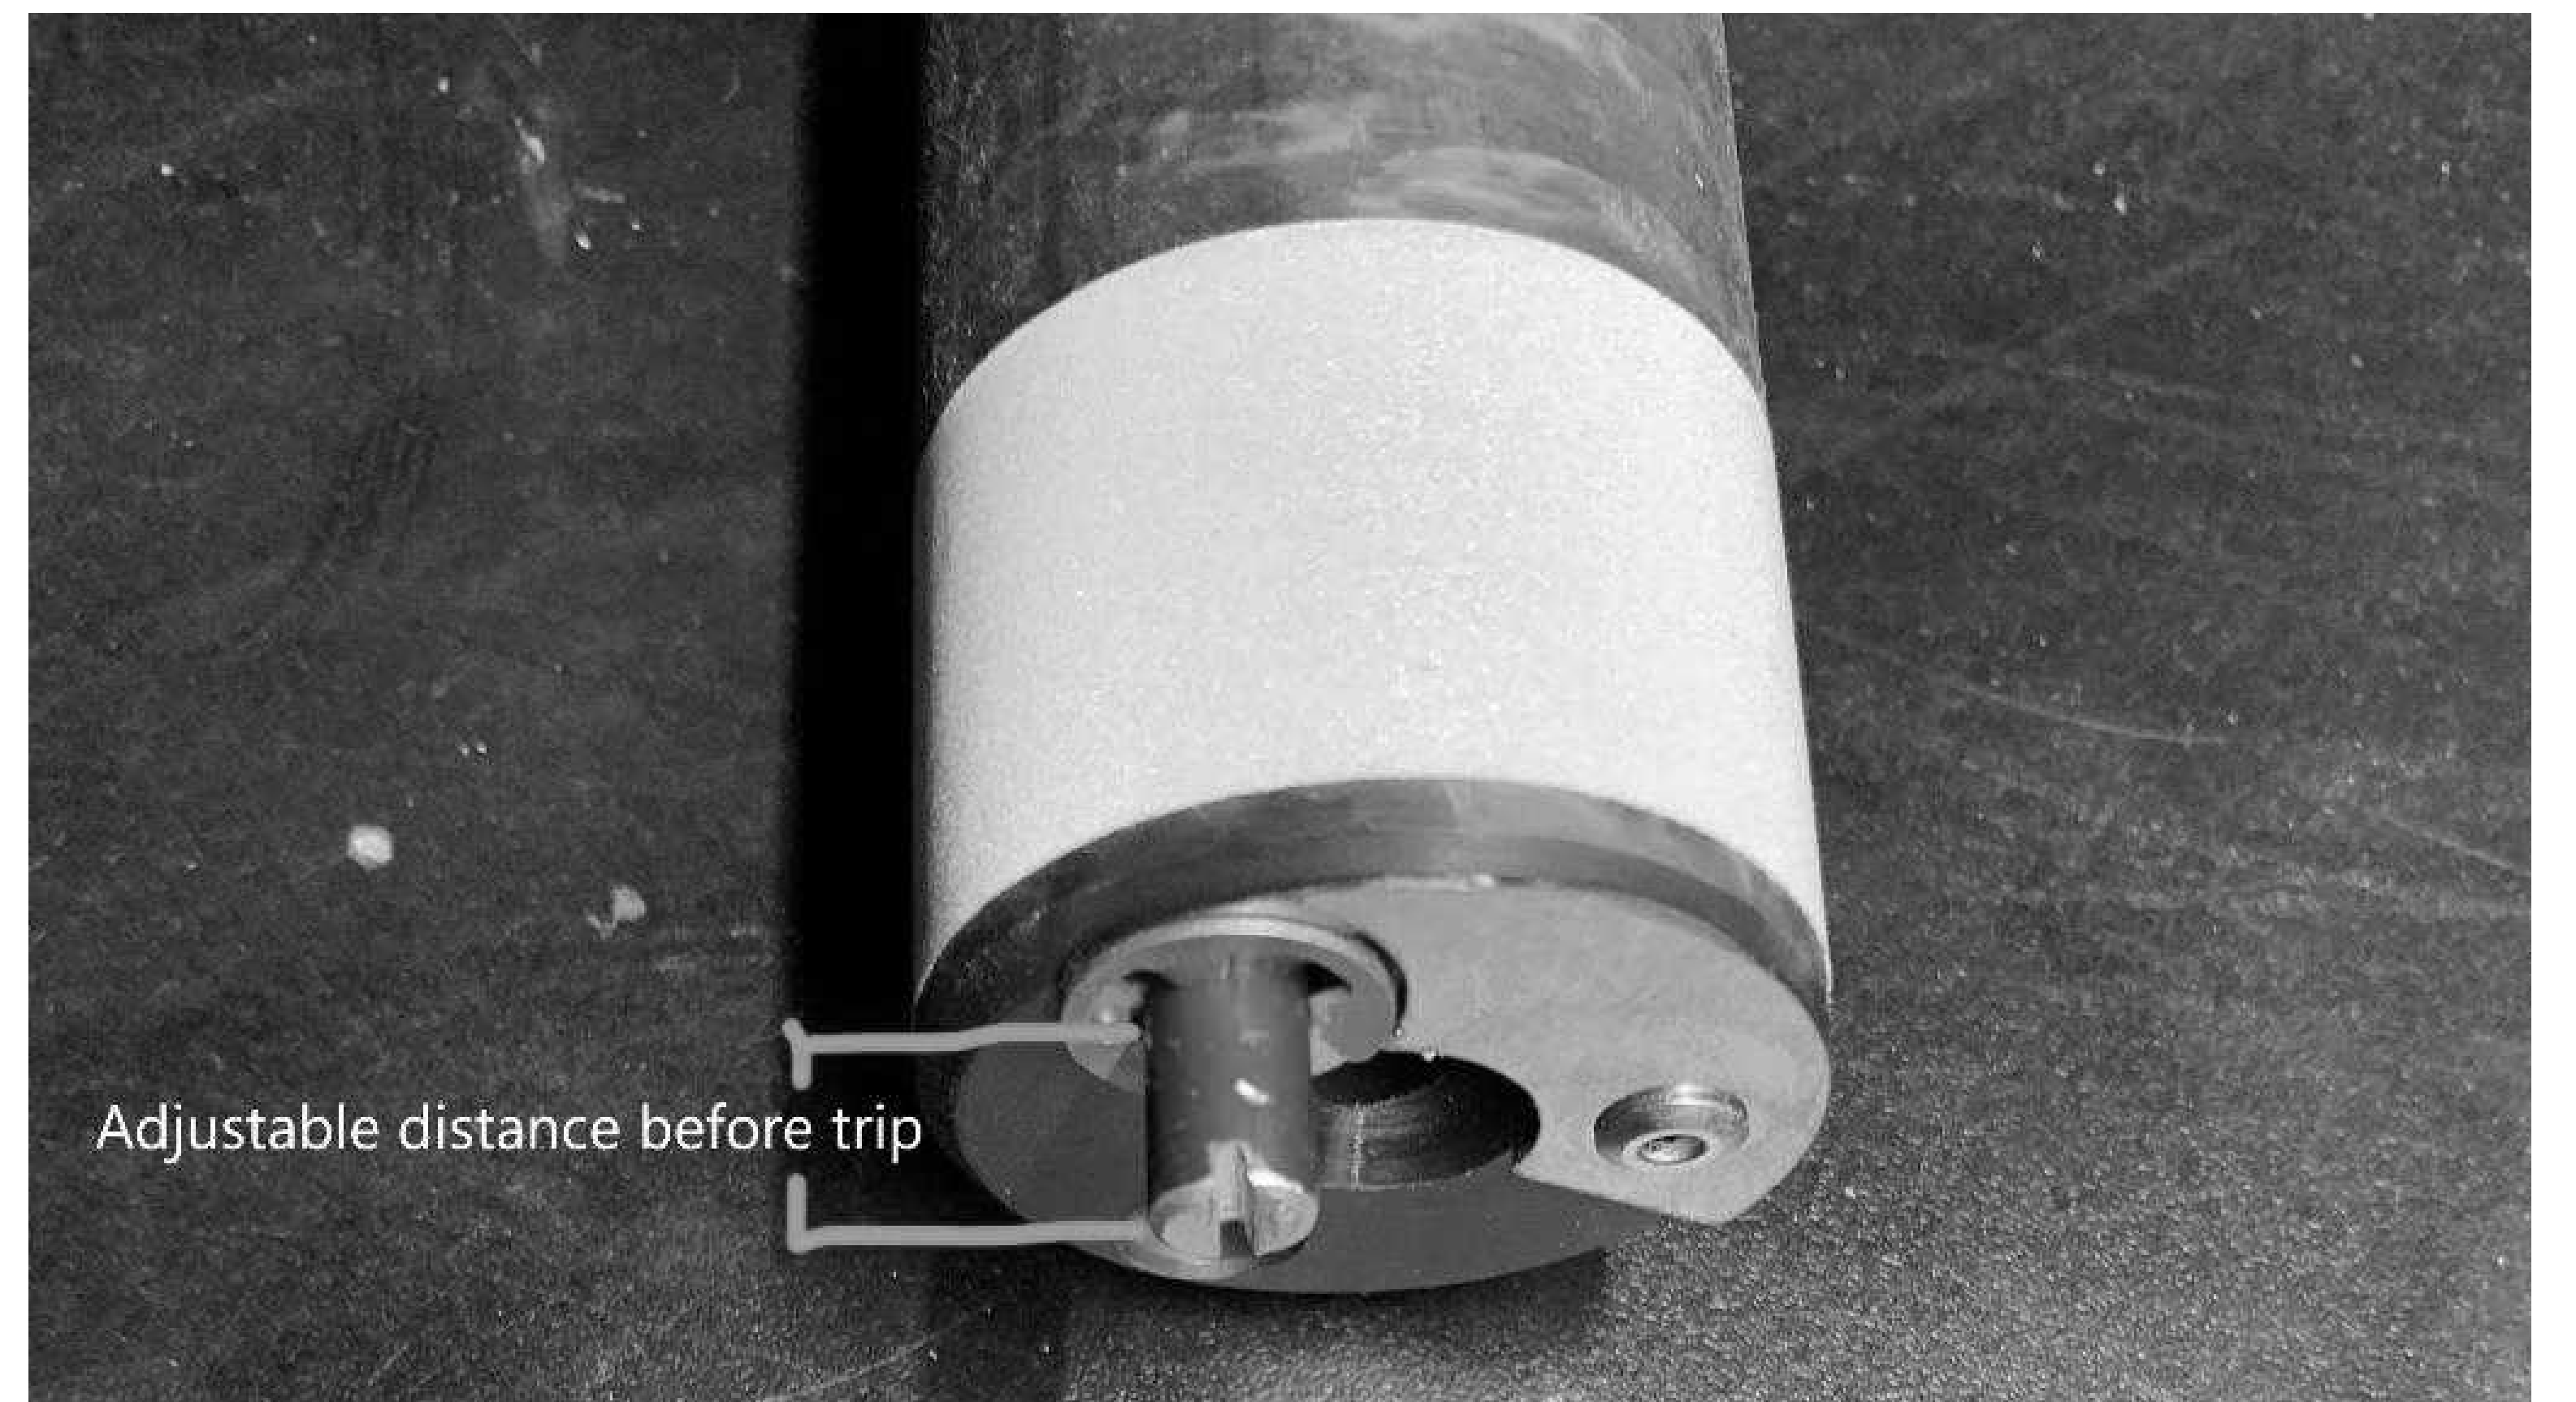

Figure 1
8. Set Drop Flag Trip: Adjust the red slotted rod to set the desired drop flag trip distance (see Figure 1).